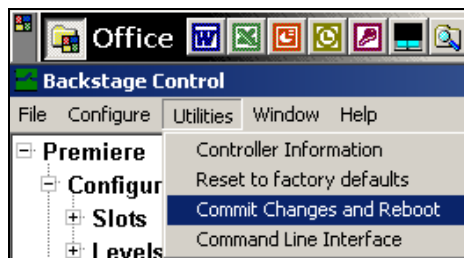

FIGURE 64: Saving the Options
- 4) To save the values, go to Menu Bar and click on Utilities. Then, click on Commit Changes and Reboot (see Figure 64).